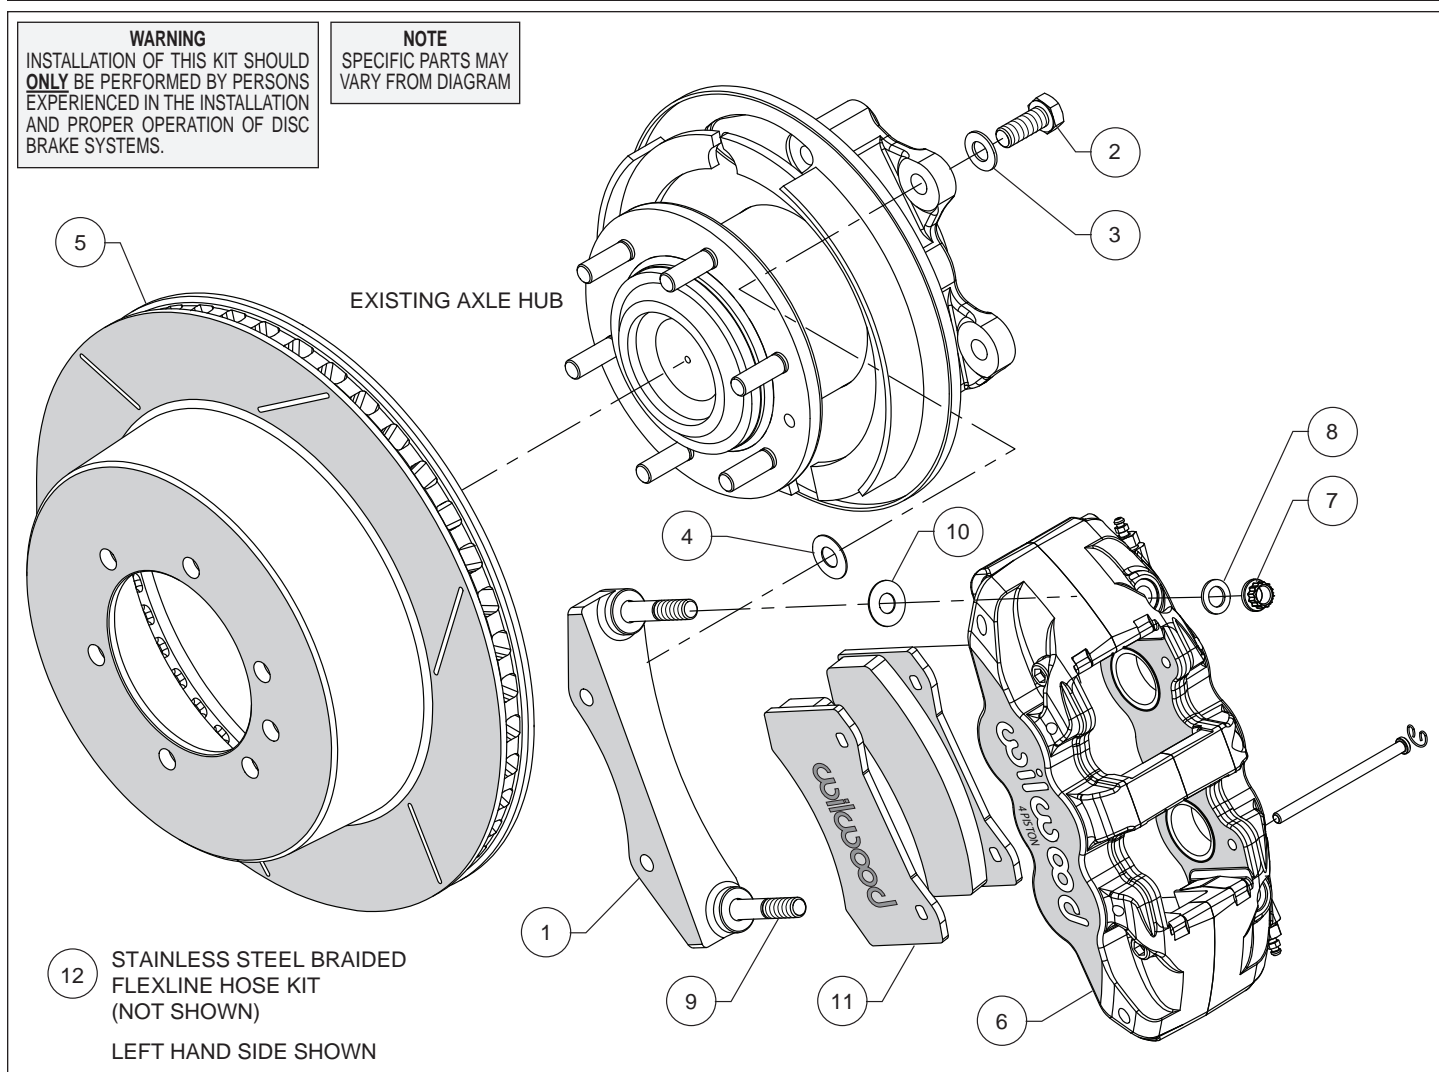

Figure 1. Typical Installation Configuration
**Assembly Instructions** (numbers in parenthesis refer to the parts list and Figure 1 on the preceding pages):
- The caliper mount bracket (1) should initially be installed with clean, dry threads on the mounting bolts. Orient the bracket as shown in Figure 1 and Photo 2, and install using bolts (2) and washers (3). Initially place one .033 thick shim (4) on each bolt between the bracket and upright, Figure 1. Temporarily tighten the mounting bolts. **NOTE:** *The bracket must fit squarely against the mount bosses on the upright.* Inspect for interference from casting irregularities, machining ridges, burrs, etc. Later, after the caliper alignment has been checked, the mount bolts will be secured using red *Loctite*® 271.
- Lubricate the caliper mounting studs (9) with lightweight oil. Initially place one .030" thick shim (10) on each stud as shown in Figure 1 and Photo 4. Mount the caliper (6) onto the bracket (1) using lock nuts (7) and washers (8), Figure 1. Temporarily tighten the lock nuts and view the rotor through the top opening of the caliper. The rotor should be centered in the caliper, Photo 5. If not, adjust by adding or subtracting shims (4) between the bracket (1) and the upright. Always use the same amount of shims on each of the two mounting bolts. Once the caliper alignment is correct, remove the bracket mounting bolts (2) one at a time, apply red *Loctite*® 271 to the threads, and torque to 60 ft-lb.
- Remove the caliper (6), then remove the two pad retaining pins from the caliper by carefully popping out the pin retaining clips and sliding out the pins. Insert the brake pads (11) into the caliper from the bottom, Figure 1 and Photo 6. With the friction material facing the rotor, secure the brake pads in place with the pad retaining pins and clips, Photo 7. Reinstall the caliper onto the caliper mounting bracket and temporarily tighten the lock nuts. Check that the top of the brake pad is flush with the outside diameter of the rotor, Photo 8. If not, adjust by adding or subtracting shims (10) between the caliper and the bracket. After the caliper pad height is set, torque the caliper lock nuts (7) to 47 ft-lb.
- **NOTE:** *OEM rubber brake hoses generally cannot be adapted to Wilwood calipers. The caliper inlet fitting is a 1/8-27 NPT.* Install Wilwood's stainless steel braided flexline hose kit (12), P/N 220-15680 included with this kit, Photo 9. **NOTE:** *Minor adjustment of the OEM hard line might be required to properly align with the new chassis fittings. Carefully route hoses to prevent contact with moving suspension, brake or wheel components. NOTE: Wilwood hose kits are designed for use in many different vehicle applications and it is the installer's responsibility to properly route and ensure adequate clearance and retention for brake hose components.*